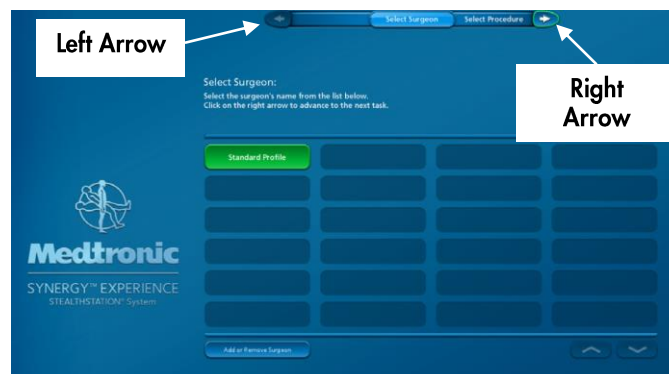

Figure 2
- Select the desired surgeon profile from the **“SURGEON PROFILE”** tab (Figure 2).